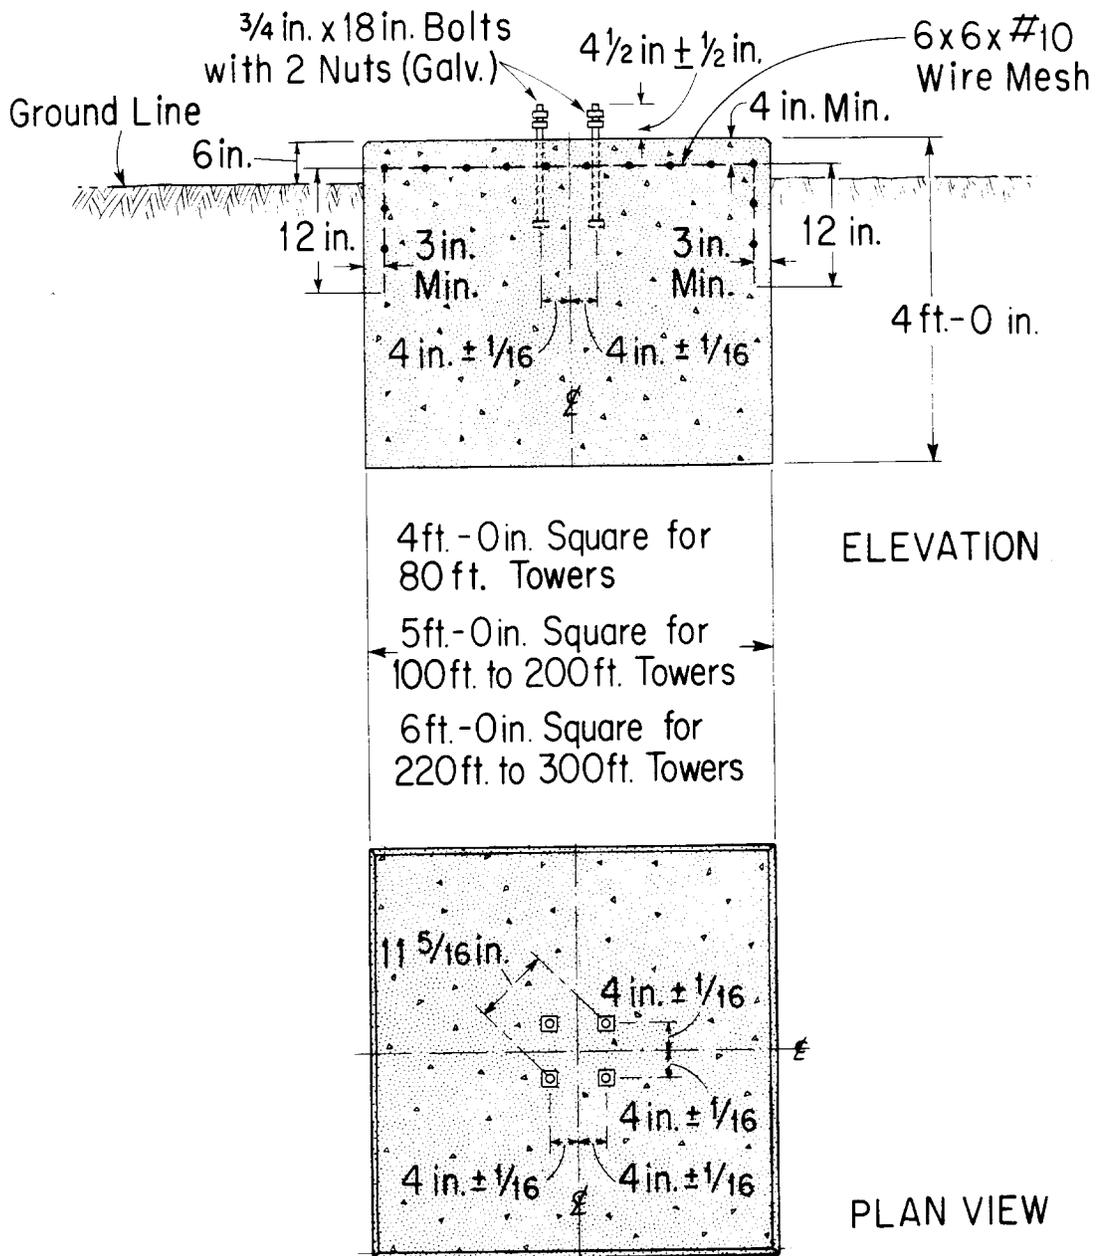

Fig. 2 — Foundation Pier
2.01 The B Guyed Tower rests upon a single concrete pier or foundation block as shown in Fig. 2. Dimensions of the blocks for each height tower are indicated. The three sizes require 2-3/8, 3-7/10 and 5-1/3 cubic yards of concrete, respectively, based on a maximum frost depth of 2-1/2 feet. Where it is known that frost depth will exceed 2-1/2 feet, the length of the pier should be increased by pouring additional concrete so that there will be at least 1 foot of concrete below the frost line.
2.05 The center of the anchor bolt group should coincide with the center of the foundation as shown in Fig. 2. Anchor bolts should extend at least 4 but not more than 5 inches above the finished grade of the pier. These bolts should be placed in strict accordance with the dimensions shown in Fig. 2, so no difficulty will be encountered when the base shoe is installed. All sizes of the tower employ 3/4- by 18-inch bolts, each equipped with two nuts. Anchor bolts should be wired to the reinforcing mesh to prevent possible